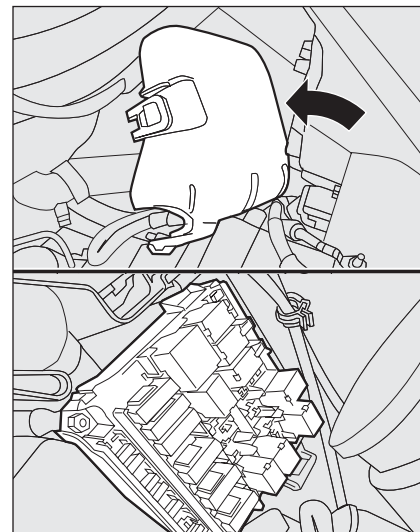

fig. 49
- ☐ move the lid towards the headlight by turning it anticlockwise (as shown by the arrow). Then, remove it, fig. 49.